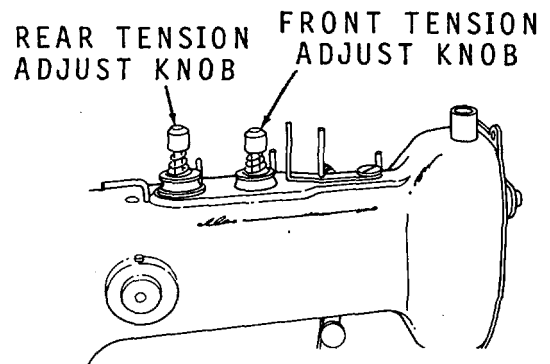

Figure 2-52. Thread Tension, Adjustment.
(9) Pass thread to the right and under tension disk (15) of face plate.
(10) Pass thread through thread guide (16) and then through needle eye from front to back.
d. Adjusting Thread Tension (Refer to Figure 2-52).
(1) The rear tension adjust knob is factory set. Do not disturb or attempt to use rear tension adjust knob for adjustment of normal thread tension. If proper thread tension cannot be obtained by use of front thread tension adjust knob, notify your supervisor.
(2) Tightness of the stitch is regulated by the front tension adjust knob. If the tension adjustment is too tight, the looper will snap the thread; if it is too loose, the knots on the under side of the button will be loose. Turning the knob to the right (cw) increases thread tension, turning it to the left (ccw) decreases tension.